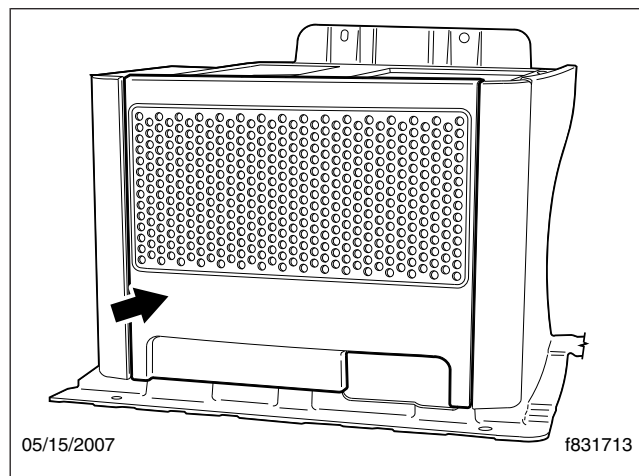

Fig. 5, Sleeper HVAC Access Panel, 60- and 72-inch Sleepers
2. In vehicles with 60-inch and 72-inch sleepers, remove the sleeper HVAC access panel on the inboard side of the cabinet. See **Fig. 5**. The panel is held in place with four spring clips. Pull straight out to remove it.
2. Remove the sleeper HVAC access panel on the inboard side of the cabinet. See Fig. 5. The panel is held in place with four spring clips. Pull straight out to remove it.